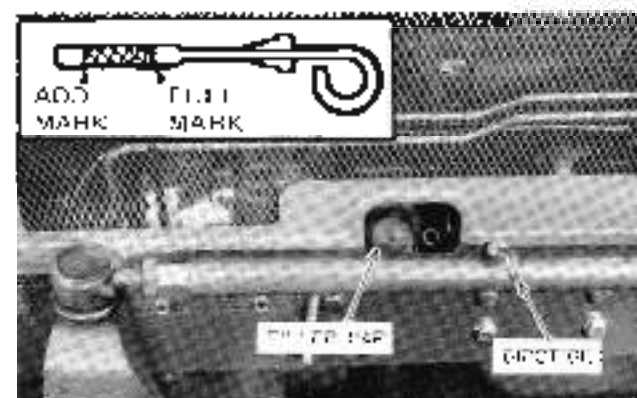

Figure 35 - Engine Oil Level Dipstick and Filler Cap
1. With the tractor standing level, and with the engine at least 5 minutes off time, check the oil level with the dipstick, Figure 35.